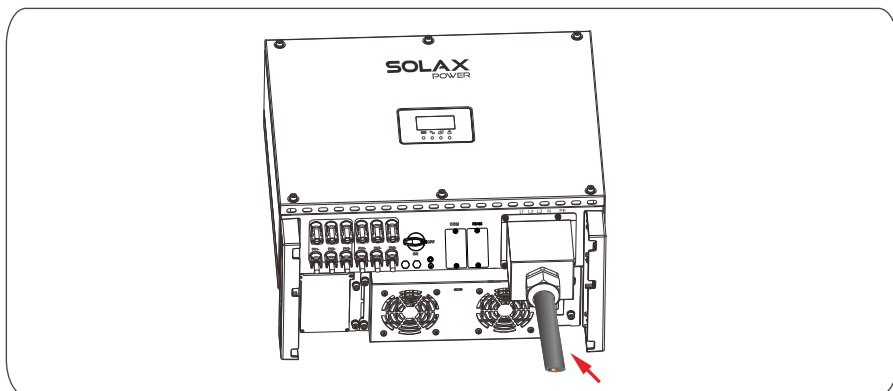

Figure 5.7 Tightening the wiring board
Step 4 Lock the AC OUTPUT terminal shell back to the original position, Stretch all the lines on the AC end naturally and then tighten the plug, as shown in Figure 5.7.